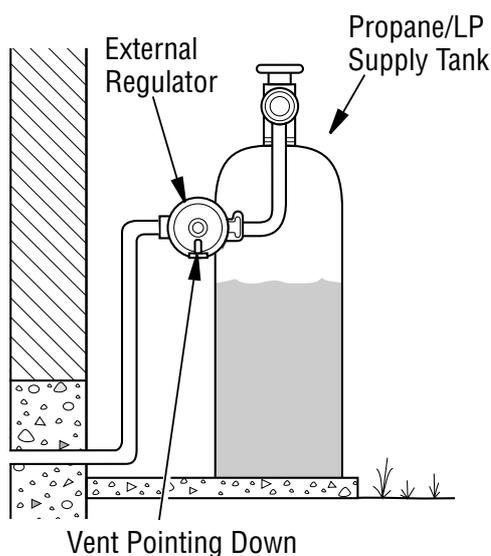

Figure 17 - External Regulator on Propane/LP Supply Tank with Vent Pointing Down
* A equipment shutoff valve with 1/8" NPT tap is an acceptable alternative to test gauge connection. For propane/LP units, the installer must supply an external regulator. The external regulator will reduce incoming gas pressure. You must reduce incoming gas pressure to between 11" and 14" of water. If you do not reduce incoming gas pressure, heater regulator damage could occur. Install external regulator with the vent pointing down as shown in **Figure 17, Page 15**. Pointing the vent down protects it from freezing rain or sleet.